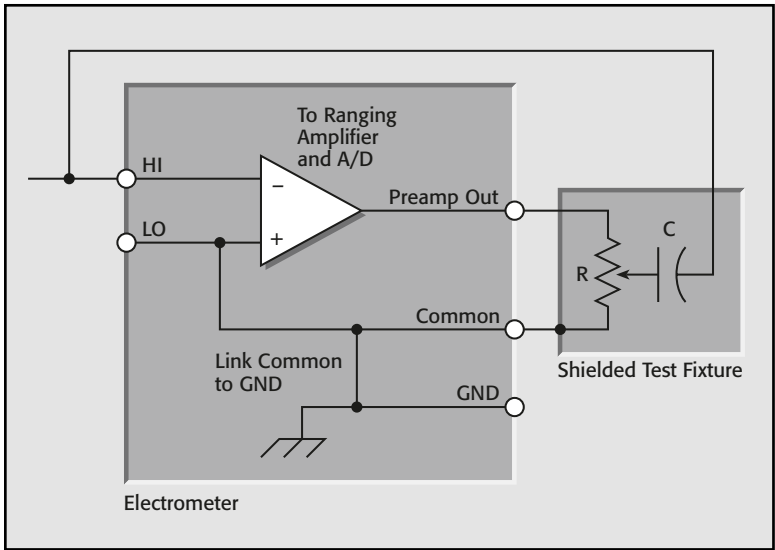

Figure 12: External Damping Circuit
**Figure 12** illustrates an example of an external damping circuit. This circuit consists of a low leakage polystyrene or polyester capacitor (C) and a potentiometer (R). The potentiometer is connected between the preamp output and the common (or LO) terminal of the ammeter. The capacitor is connected between the HI input terminal of the ammeter and the moving arm of the potentiometer. The value of the capacitor depends on the current range of the ammeter. Higher ranges require the use of higher